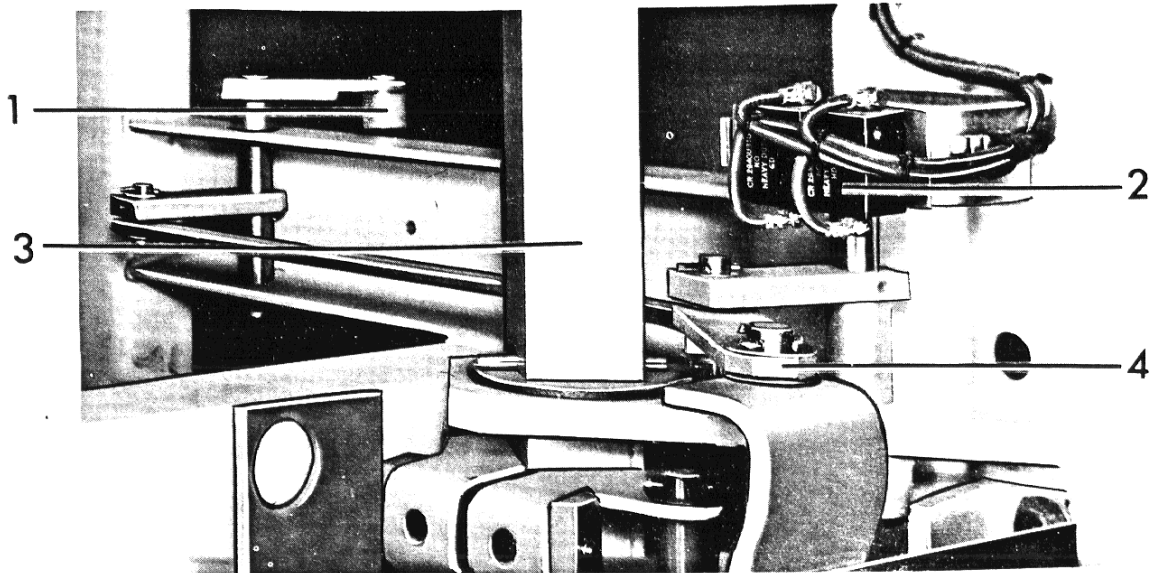
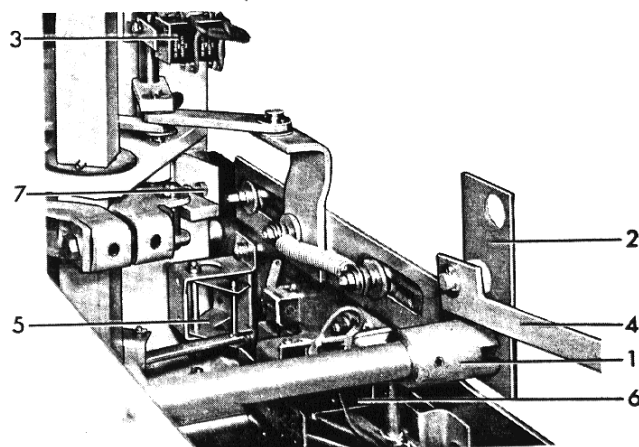
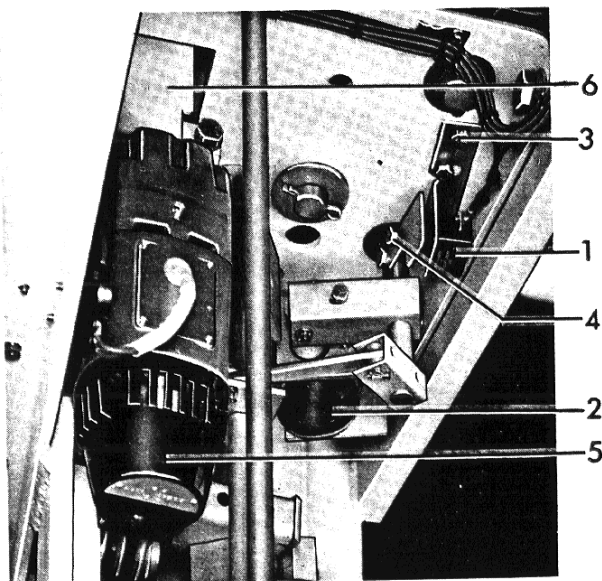

Figure 8. (8039292) Positive Interlock
Figure 9. (8039295) Racking Screw Shutter
Figure 13. (8039314) Motor Mounting
A positive interlock (1) Fig. 8 works with the racking screw shutter (2) Fig. 9 to prevent insertion or removal of the breaker when the contacts are closed. It also prevents closing the breaker except in the fully connected or test position. Electrical operation of the breaker is also prevented by the interlock linkage.
If adjustment is necessary, loosen switch (1) Fig. 13 and move for clearance. Loosen nut and adjust stop (4) until the proper wipe is obtained. Secure the stop nut and reset switch (1) as listed under Switch Adjustment page 19.
The strikers for operating the motor switch (3) Fig. 22, positive interlock switches (2) Fig. 8, closing latch monitoring switch (1) Fig. 13 and trip latch checking switch (1) Fig. 23 should be adjusted to a clearance of $1/64"$ to $1/32"$ from the switch support. The switch supports should be loosened and the switch moved to obtain this dimension.